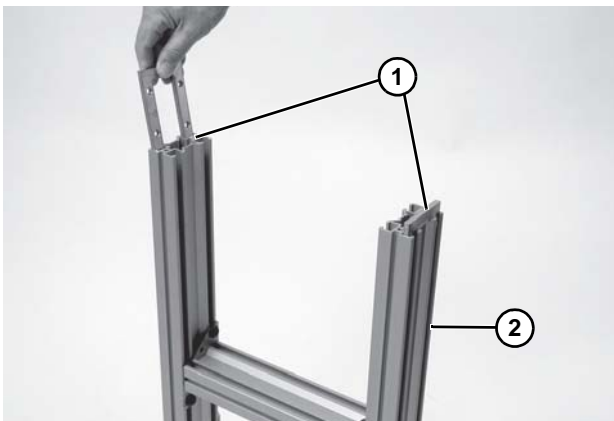

Figure 9
8. Install u-nuts (Figure 9, item 1) into outer t-slots of stand legs (Figure 9, item 2).